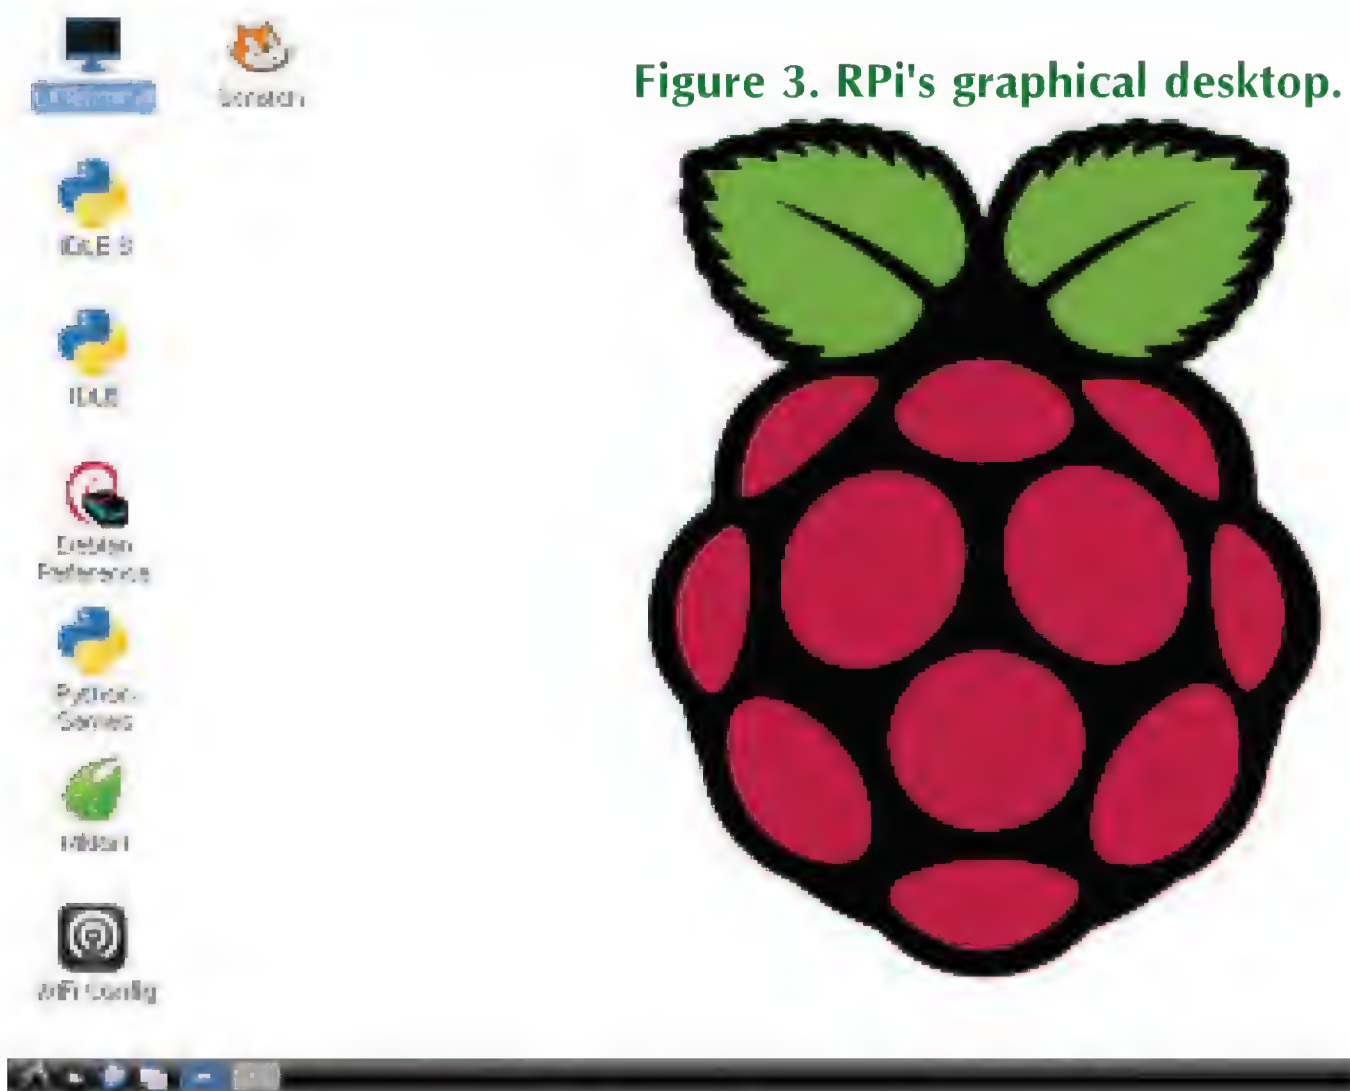

Figure 3. RPi's graphical desktop.
- Log in directly using an attached USB keyboard, mouse, and monitor, and start the graphical desktop by typing **startx**. The RPi's graphical user interface is similar to Windows. Take a look at **Figure 3**.